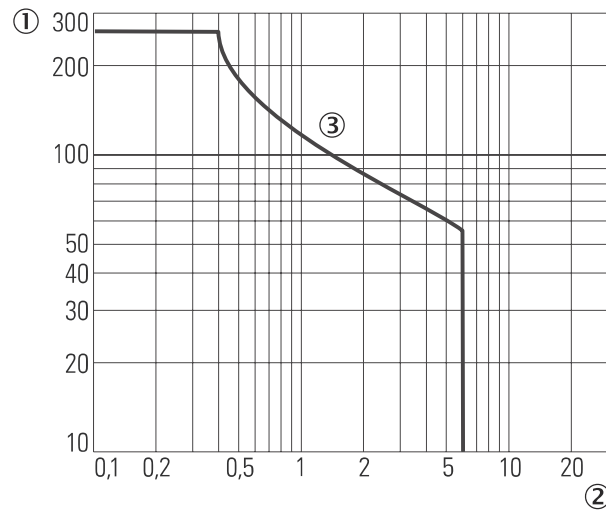
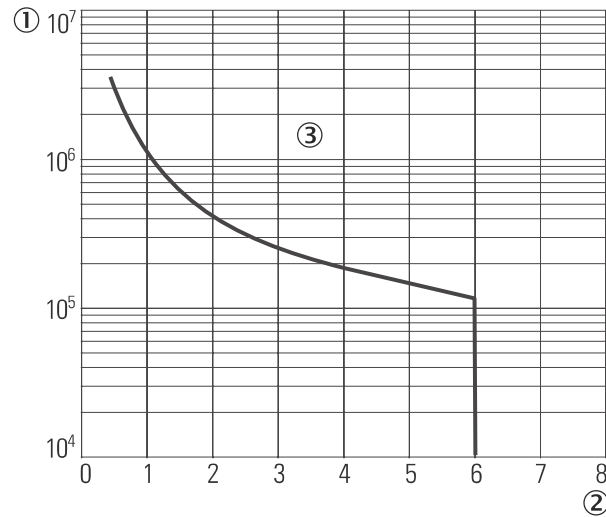

Figure 68: Maximum switching voltage with direct current, relay modules UE410-2RO/UE410-4RO
Figure 69: Electrical endurance of relay modules UE410-2RO/UE410-4RO
| Electrical endurance | see figure 69, page 171 | | |
1) see figure 68, page 171 or see figure 69, page 171.